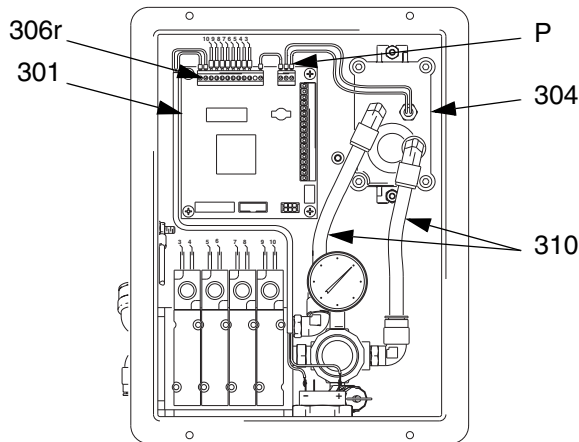

FIG. 13
2. Disconnect power supply wires (P). FIG. 13.
3. Disconnect supply and exhaust air lines (310).
4. Disconnect solenoid wires 12 position Phoenix connector (306r) from main board. FIG. 13, page 20.